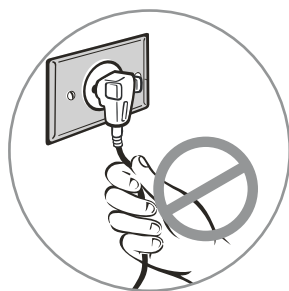

Fig. 3
7. Do not pull out or insert the plug with wet hands to avoid electric shock.(Fig. 3)